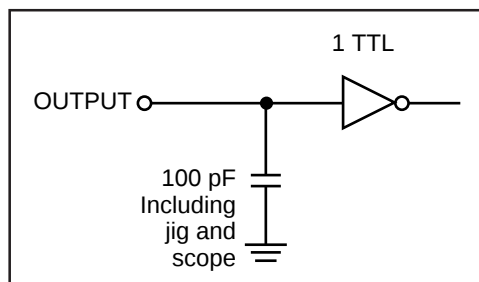

Figure 1
Output Load	See Figures 1
1. Test conditions assume signal transition times of 5 ns or less, input pulse levels of 0.4V to 2.2V and output loading specified in Figure 1.
- Test conditions assume signal transition times of 5 ns or less, input pulse levels of 0.4V to 2.2V and output loading specified in Figure 1.